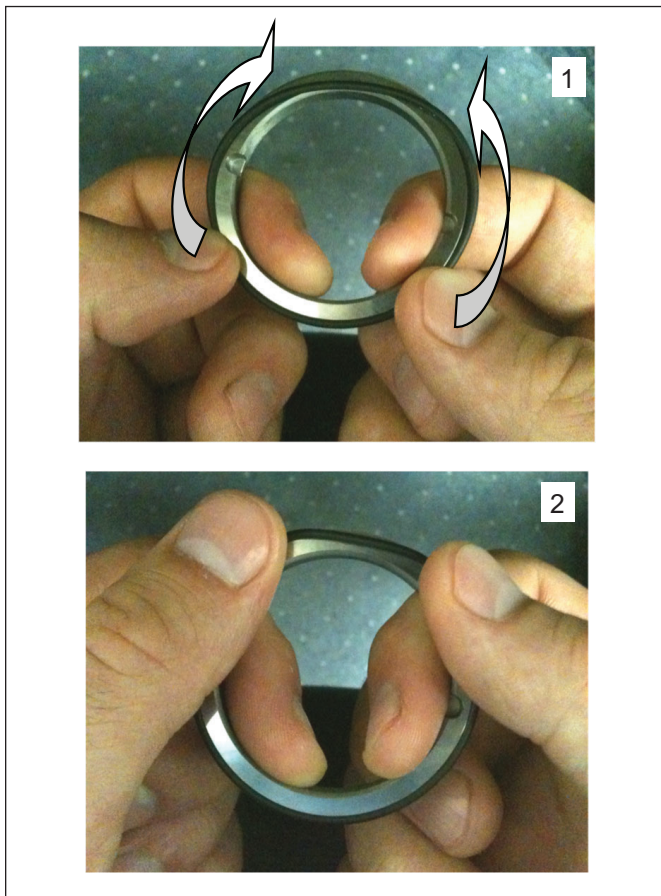

Figure 29. Installing the Rotating O-Ring
- Next install the rotating o-ring onto the rotating seal by stretching it (not rolling) onto the rotating seal (Figure 29).